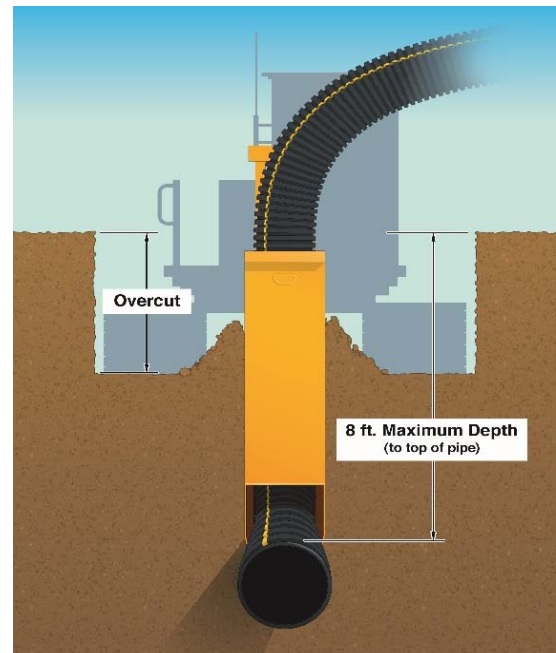

Figure 4: GOLDFLEX Maximum Burial Depth and Overcut
- An overcut, or sub-cut, may be required when installing GOLDFLEX at deeper burial depths (Figure 4). Overcuts decrease the amount of soil required to be moved by the plow. Typically, GOLDFLEX will need to be installed with an overcut when the depth to the flow line of the pipe **exceeds 4 feet**. For example, if this depth is 6 feet, then an overcut of 2 feet or more may be required. The depth and use of an overcut will vary based on soil type, moisture content, and ground temperature.